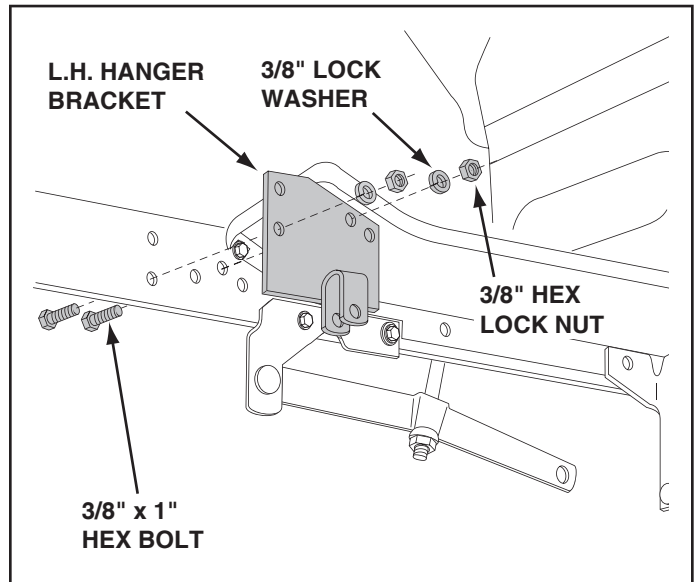

FIGURE 5 LEFT SIDE VIEW
- Assemble the L.H. hanger bracket to the left side of the tractor frame using two 3/8" x 1" hex bolts, two 3/8" lock washers and two 3/8" hex lock nuts as shown in figure 5.